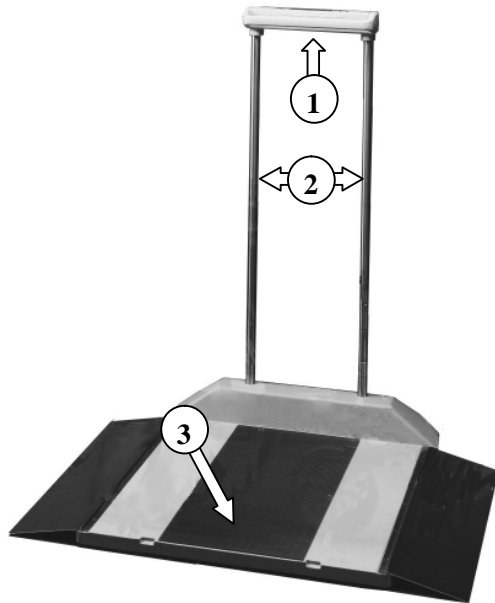

Figure 1: Assembly Diagram
STEP 2: (Figure 1) Verify that the serial number on the Display Unit (1) matches that on the Base Assembly (3).
STEP 3: (Figure 1) Attach the Mast Pipes (2) to the Display Unit (1), feeding the cable down through the left pipe. Securely tighten the set screws in the display casting collars using a small amount of Loctite®.